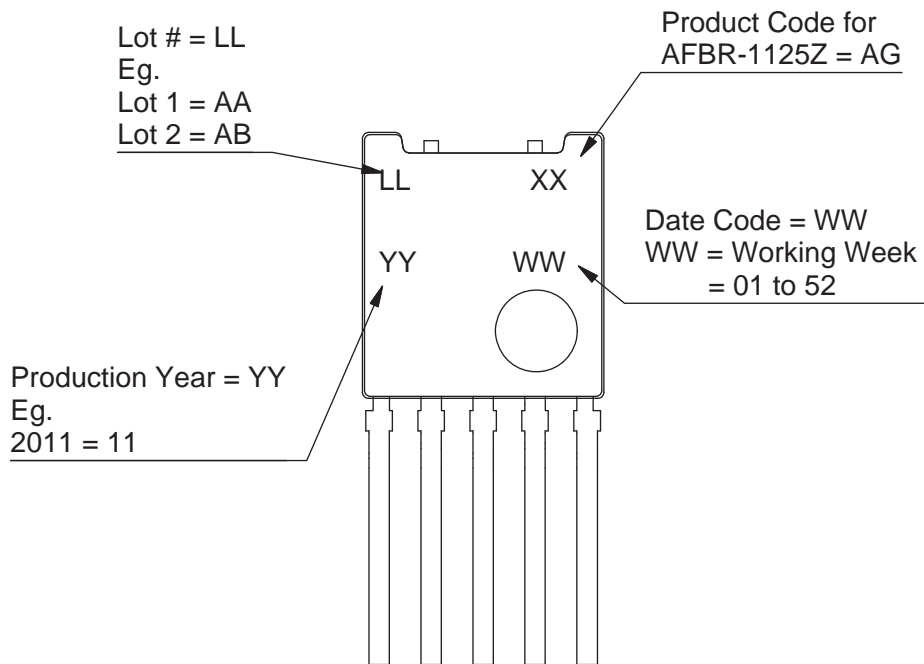

Figure 5. Transmitter Device Marking
2. Termination as shown in Figure 5